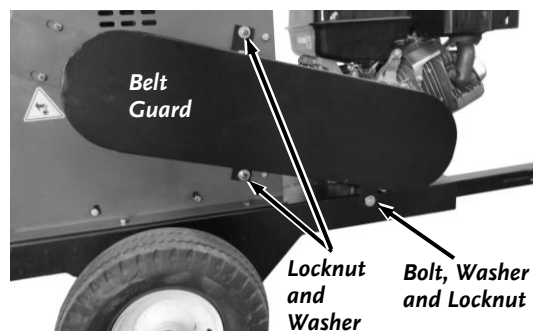

Figure 30
1. Remove the Bolt, Washer and Locknut that attaches the lower portion of the Guard to the Base (**Figure 30**).